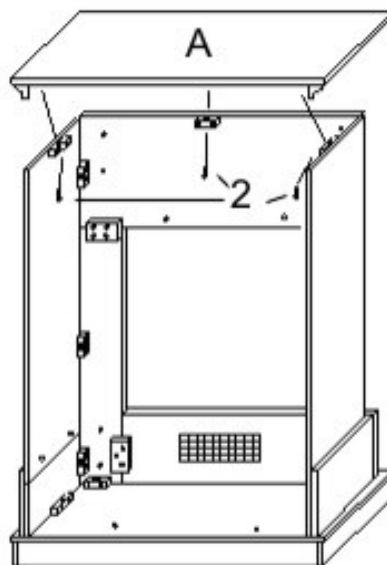

Fig. 12
**Step 12:** Attach the TOP PANEL (A) to the top of the unit using 3KD SCREWS (2). See Fig.12.